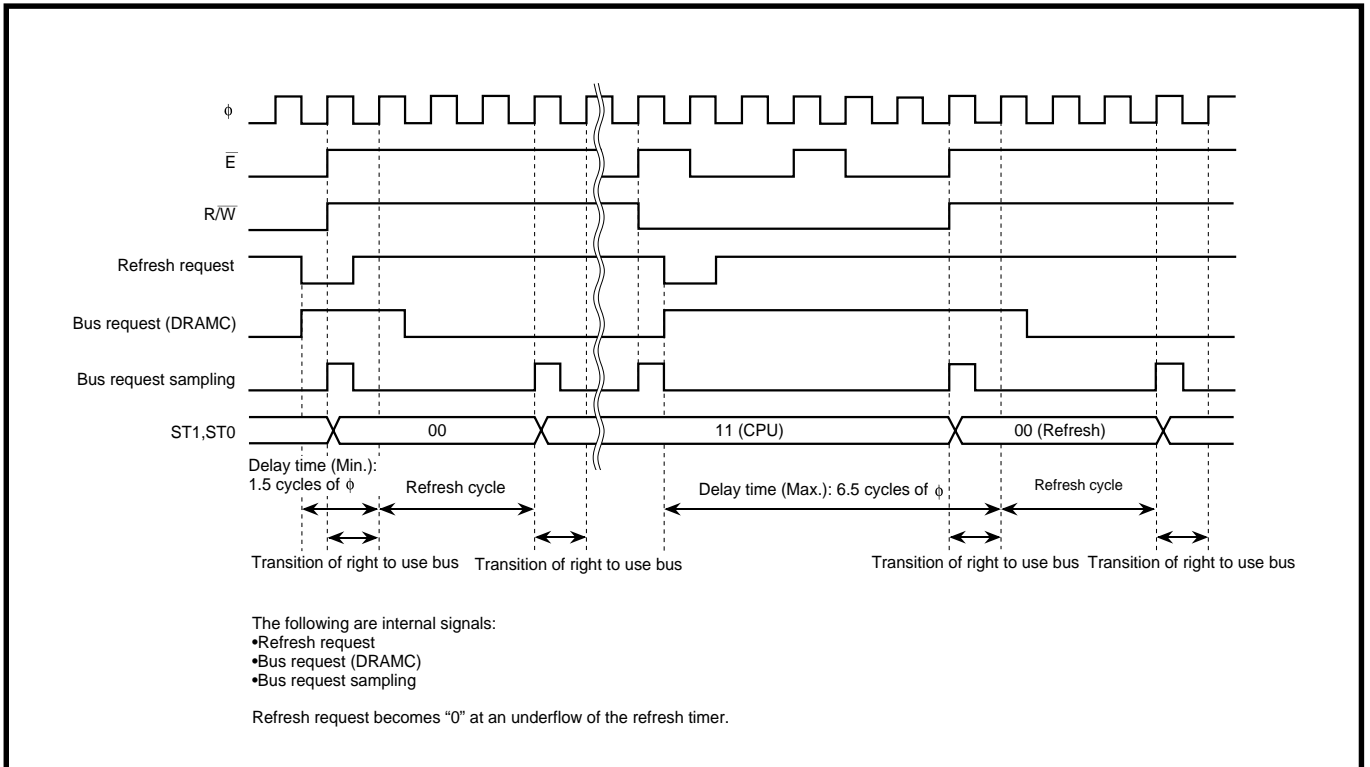

Fig. 14.4.2 Refresh delay time example when CPU is operating
- ① When the DRAM validity bit is set to "1," the refresh timer starts counting down. The count source is  $f_{16}$ .
- ② When the contents of the refresh timer reach "0016," a refresh request occurs. The refresh timer reloads the contents of address 6616 and continues counting.
- ③ Refresh requests are sampled as bus requests (DRAMC) by using the bus access controller. As soon as a refresh request is acknowledged by sampling, the following ④ is performed because DRAM refresh has the highest priority in using the bus. However, when the CPU or DMAC uses the bus, no bus request is sampled until the CPU or DMAC releases the bus. Therefore, in a period from when a refresh request occurs until DRAM refresh is performed, the delay listed in Table 14.4.1 occurs depending on the refresh request generating timing. Figures 14.4.2 and 14.4.3 show refresh delay time examples when CPU is operating and during DMA transfer. For a bus request, refer to "13.2.1 Bus access control circuit."
- ④ When the refresh request is accepted, the right to use the bus is passed to DRAM refresh (1 cycle of  $\phi$ ). Both of the output levels of ST1 and ST0 are "L." (The bus status is indicated as [0, 0].)
- ⑤ The RAS and the CAS signals are output and the DRAM data is refreshed (refresh cycle: 3 cycles of  $\phi$ ).
- ⑥ The right to use the bus is passed to the CPU, DRAM or Hold (1 cycle of  $\phi$ ). The outputs of ST1 and ST0 change.